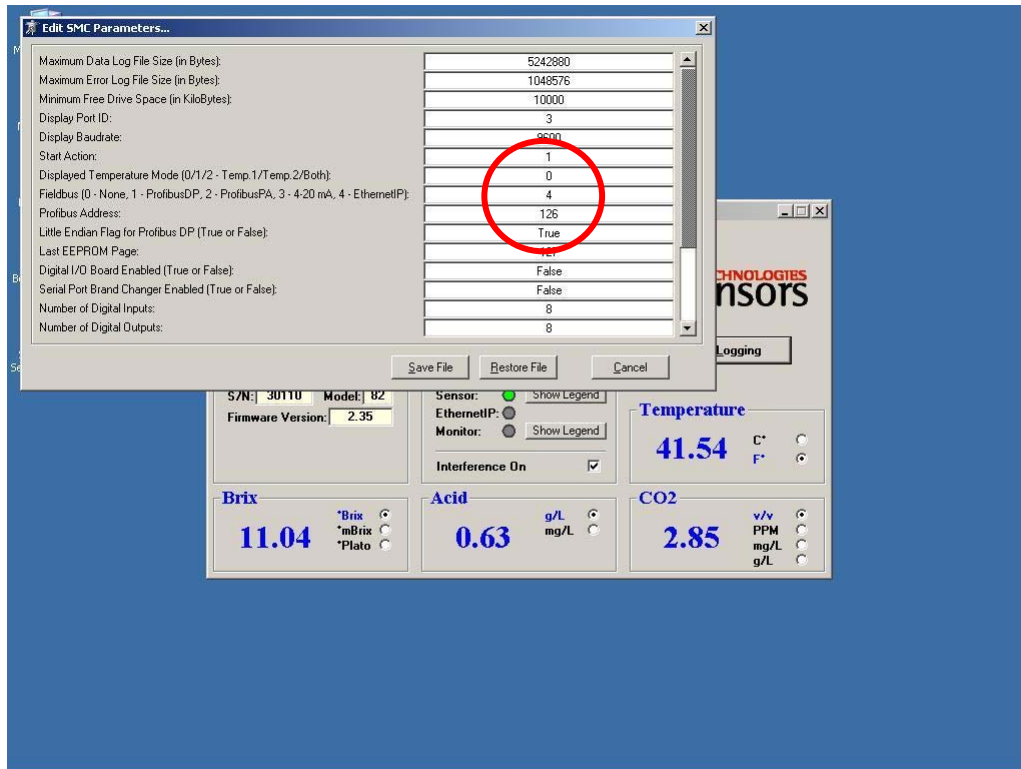

Figure: 1
3. Using MS Windows Remote Desktop Connection, maximize the *VS-3000 Dashboard* software desktop **Edit**>SMC Parameters. The number in the Fieldbus slot should be "4" EtherNet/IP. Please see the Figure: 1 below and the area circled. **NOTE:** If "4" is not entered, manually type in 4 and the software will re-start.